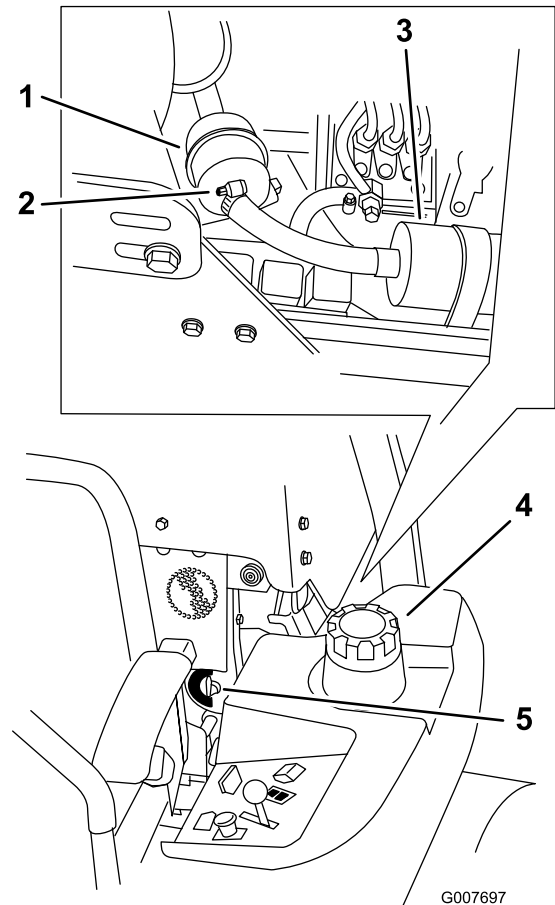

Figure 47
4. Close the fuel shut-off valve (Figure 47).
5. Loosen the two hose clamps and disconnect the fuel lines from the fuel filter (Figure 47).
6. Install a new filter. Connect the fuel lines to the fuel filter and install the two hose clamps (Figure 47).